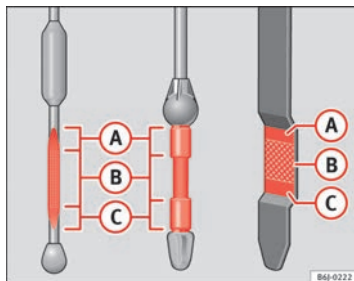

Fig. 159 Engine oil dipstick
- Then pull it out once more and check the oil level ⇒ fig. 159. Top up with engine oil if necessary.